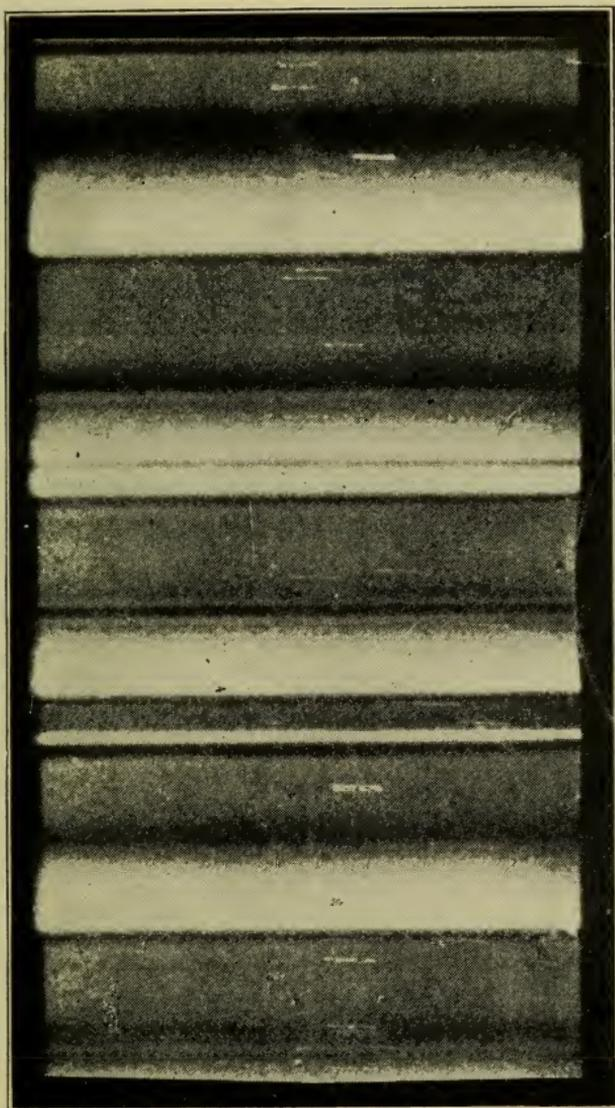
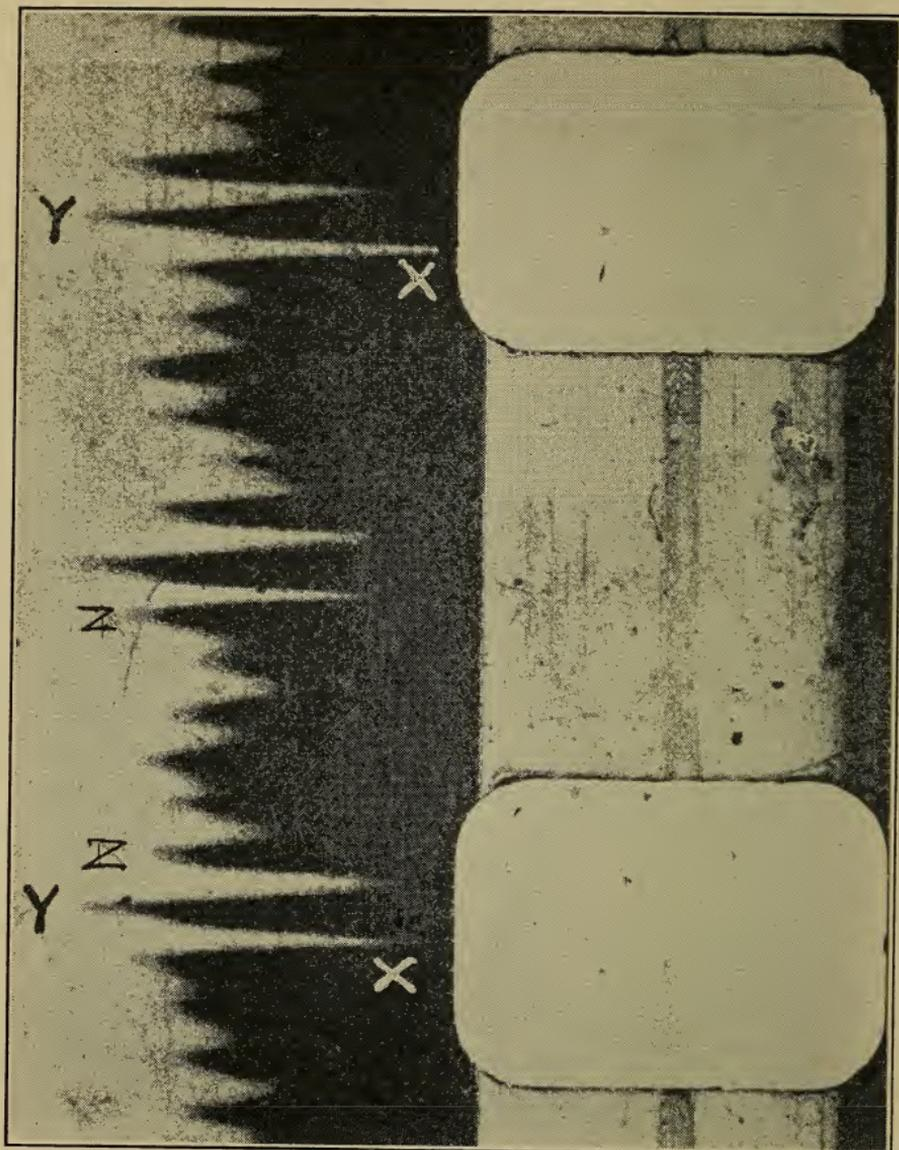

Figure 383.
Figure 385.
In Fig. 383 we have a section of the Movietone sound band magnified thirty (30) times. Note the shadings from dark to light, and vice versa. Each difference in density means a difference in sound. In considering this photograph, remember that it represents a section of sound band only about three-sixteenths ($3/16$) of an inch in length, so that you see these wide "lines" actually occupy less than one-sixty-fourth ($1/64$) of an inch of space, up and down, on the sound band.
Fig. 384 is a section cut out of the magnified sound band shown in Fig. 383, together with a graph showing the percentages of total transmission of light, or in other words the percentages of total light the various shadings
Observe in Fig. 383, how light gradually shades into dark, or vice versa. That corresponds to or with the back-and-forth movement of the air transmitting the sound waves and the in-and-out movement of the microphone diaphragm, hence the more sudden the change from light to dark or dark to light, the more violent was the back-and-forth movement of the air at that instant of time, hence the greater the acoustic energy of sound. Conversely the less the contrast between light and dark, the softer was the sound recorded.
What is known technically as the "variable area" method of recording is employed. The record consists of a series of more or less sharply angled and more or less wide opaque peaks, the same extending across or partly across the width of the sound track, their bases next the sprocket holes. Between each pair of opaque peaks there is, of course, a transparent peak, the base of which lies in the opposite direction. This is clearly shown in Fig. 385, which is a photograph of the sound track, many times enlarged.
It is a very difficult matter to put an intelligent explanation of the effect of this sound track upon the light beam into words, but I will try. Examining Fig. 385, it is not difficult to understand that if a thin line of light
For example, at X and X, Fig. 385, during the time the transparent peaks are passing through the line of light it, the light, will reach the photo-electric cell at about seven-eighths of its full possible strength, hence the photo-electric cell will send out, during that infinitesimal fraction of a second, almost its full power in E.M.F.
Comparing Fig. 385 with Fig. 383, which latter illustrates the variable density method of recording and reproduction, it will be seen that the difference is so very marked that there is indeed but slight resemblance. However, the effect, in sound reproduction, taken as a whole, is not very different.
When the oscillatory galvanometer is at rest—no current reaching it from the microphone—the light beam covers only half the width of the sound track. When the microphone current passes through the molybdenum loop, however, it, the loop, starts to vibrate, and of course the mirror, being cemented to it, vibrates with it, in synchronism with the frequency of the sound waves, with the result that the light beam is moved sidewise across the film sound track, the action “exposing” a portion of it to the light thereof, which exposed portion constitutes the sound record. It is shown you in Fig. 385.
It will be understood that since the film moves at the rate of exactly ninety feet per minute, which is steady and unvaried, if the mirror vibrates rapidly the base of the “peaks” (Fig. 385) will not be so broad as will they if the vibration be more slow. Also if the vibration be slight, the height, or more properly speaking, the width, since they lay in horizontal position, will not be so great as they will be if the vibration of the mirror be heavier.